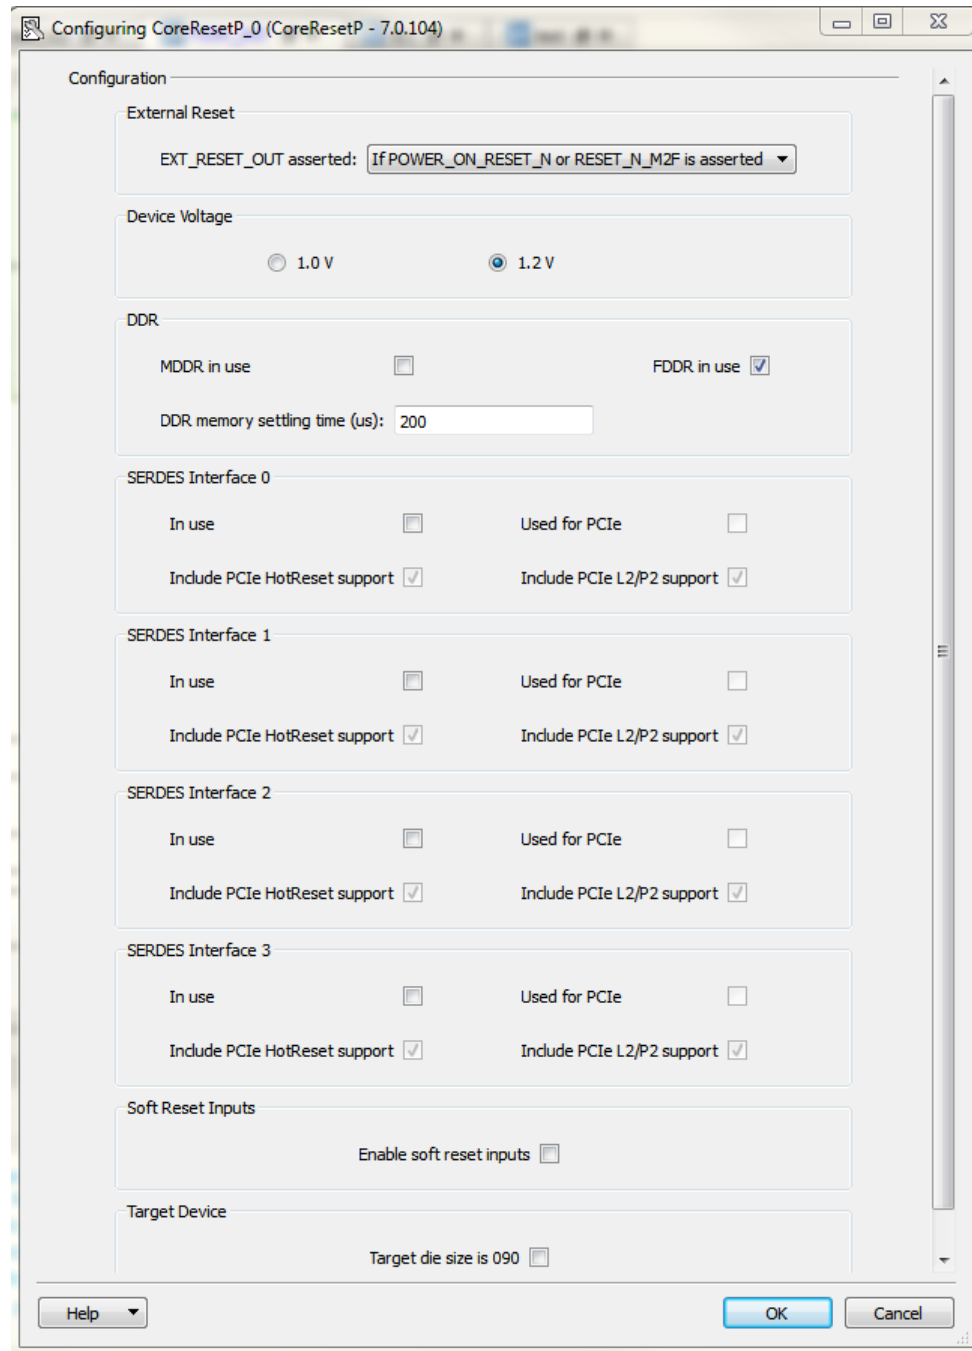

Figure 30. CoreResetP Configurator
2. Double-click the core inside the SmartDesign Canvas to open the Configurator (Figure 30 – CoreResetP Configurator)